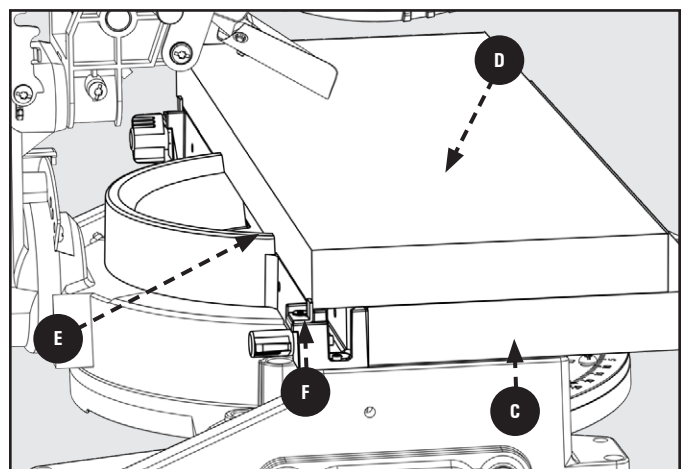

Figure 41
3. You will need to add a 2 x 12 auxiliary table board **C** to support your large capacity workpiece **D**. See Figure 41.
NOTE: The Auxiliary Table Board should be as wide as the lower (fixed) fence and secured to the lower fence using wood screws, see Figure 41.
4. The large capacity workpiece is supported against the step in the fixed fence **E** Figure 41.